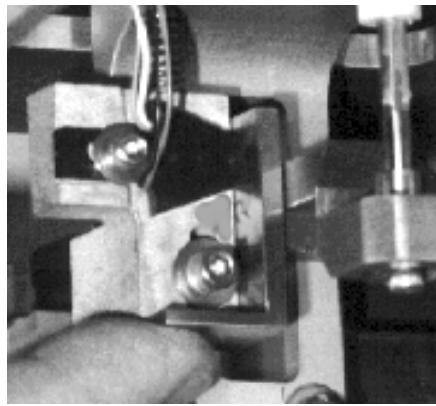

Figure 6-3 Pump Sensor
2. With the Pump Pivot Arm in front of the Pump Sensor, place the long end of the sensor/tray alignment tool (P/N 371114-1) between the sensor tip and pivot arm (refer to Figure 6-1 for sensor location). Adjust the Pump Sensor (see Figure 6-3) as necessary to obtain the proper gap (.125 inch). Verify the sensor is mounted with the collector (green - white wires) up.
5. If the upper pistons are not flush with the top of the pump assembly, adjust the Pump Sensor (refer to Figure 6-1 or Figure 6-3). After each adjustment verify the pistons are flush with the top cover plate of the pump assembly by typing **home** and pressing **ENTER**. To adjust the sensor proceed as follows: